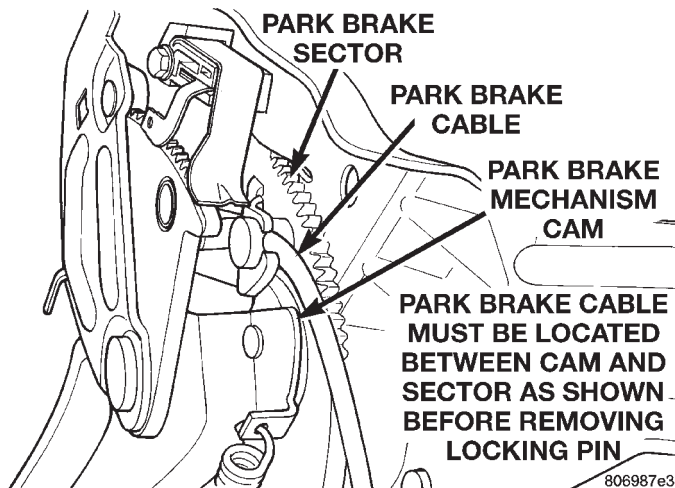
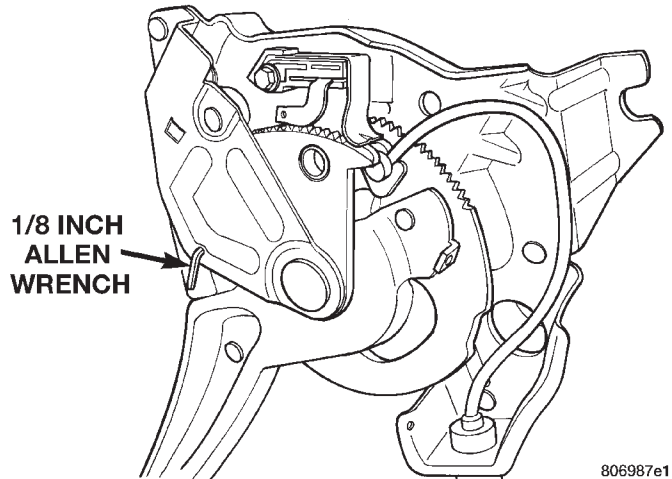

Fig. 105 Correct Park Brake Cable Routing
Fig. 106 Park Brake Pedal Lock Pin
(8) Ensure that park brake cable is properly routed in cam surface track of park brake pedal assembly (Fig. 105). Using a pair of pliers, firmly grasp allen wrench previously installed in park brake mechanism (Fig. 106). Remove allen wrench from park brake pedal mechanism, using a firm and rapid pull. When allen wrench is removed from park brake pedal mechanism, the park brake mechanism and park brake cables will automatically adjust. **See parking brake adjustment procedure in this section of the service manual for complete parking brake adjustment procedure.**